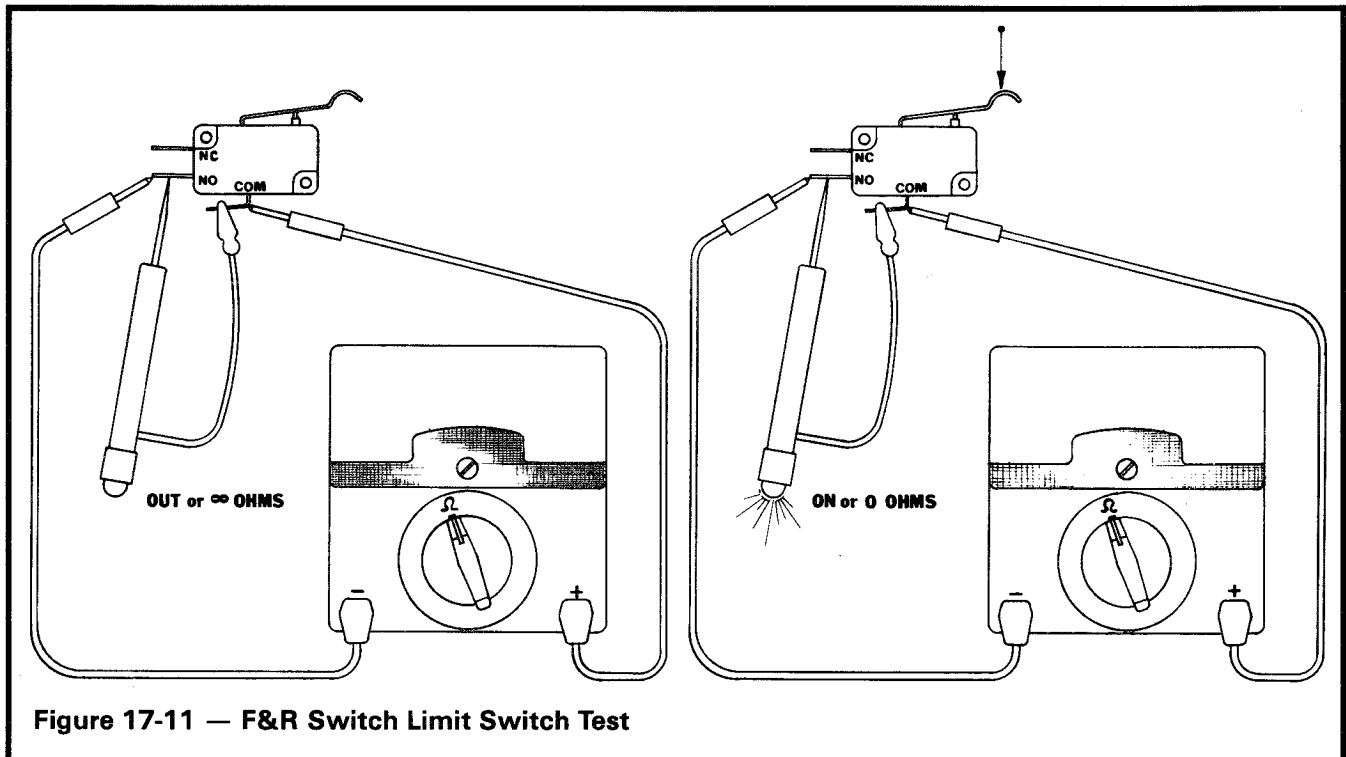

Figure 17-11 — F&R Switch Limit Switch Test
1. With the alligator clip from the continuity meter on the common terminal and the probe on the normally open (NO) terminal, switch lever not depressed, reading should be no continuity (Figure 17-11).